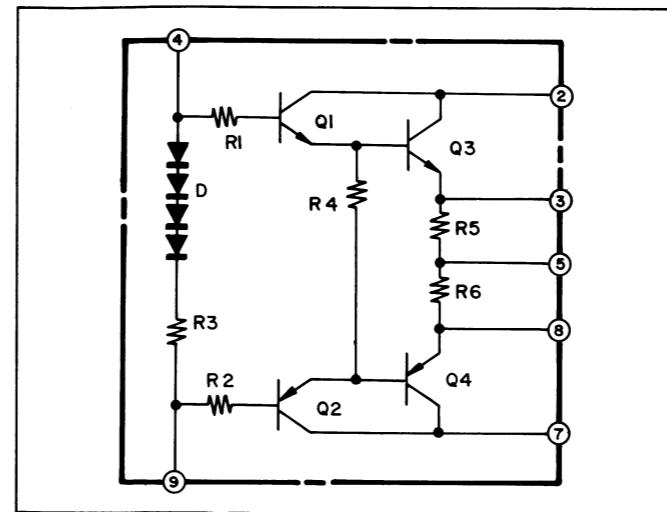

Figure 13
■ MAIN AMPLIFIER CIRCUIT (See Figure 13 and 14)
The internal circuit diagram of the output Amplifier (IC401 or IC402) is as shown in Figure 13.